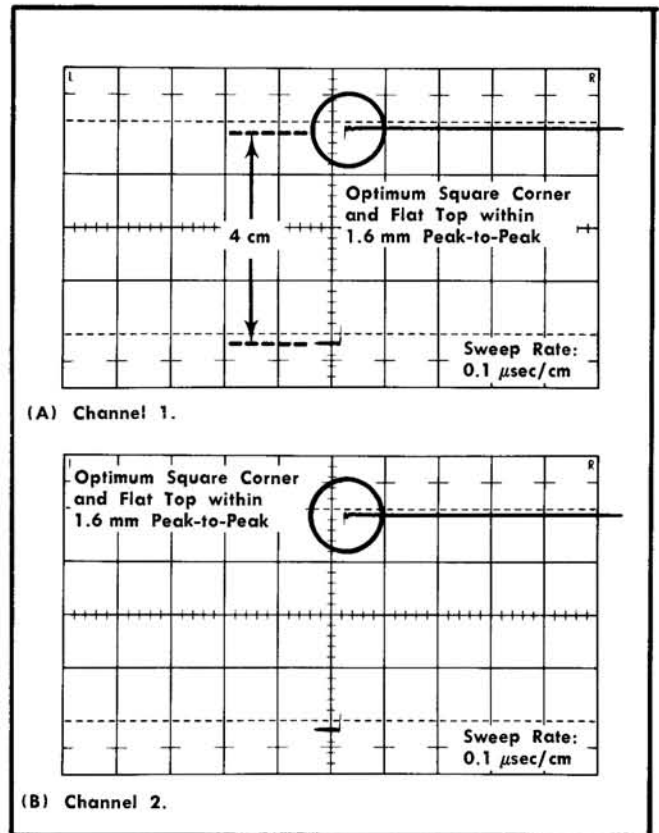

Fig. 6-4. Typical Channel 1 and Channel 2 waveforms of high-frequency response at a vertical deflection factor of 0.05 volts/cm.
f. Use the oscilloscope Horizontal Position and Type 1A1 Channel 1 POSITION controls to move the waveform near the location shown in Fig. 6-4.